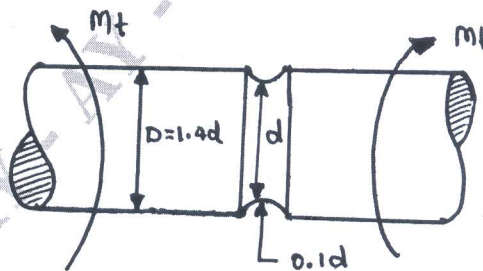

Fig Q3(b)
b. A grooved shaft shown in Fig Q3(b) if to transmit 5kW at 120rpm. Determine the diameter of the shaft at the groove it is made of C15 steel. Take factor of safety as 2 and  $\sigma_y = 235.4\text{MPa}$ .